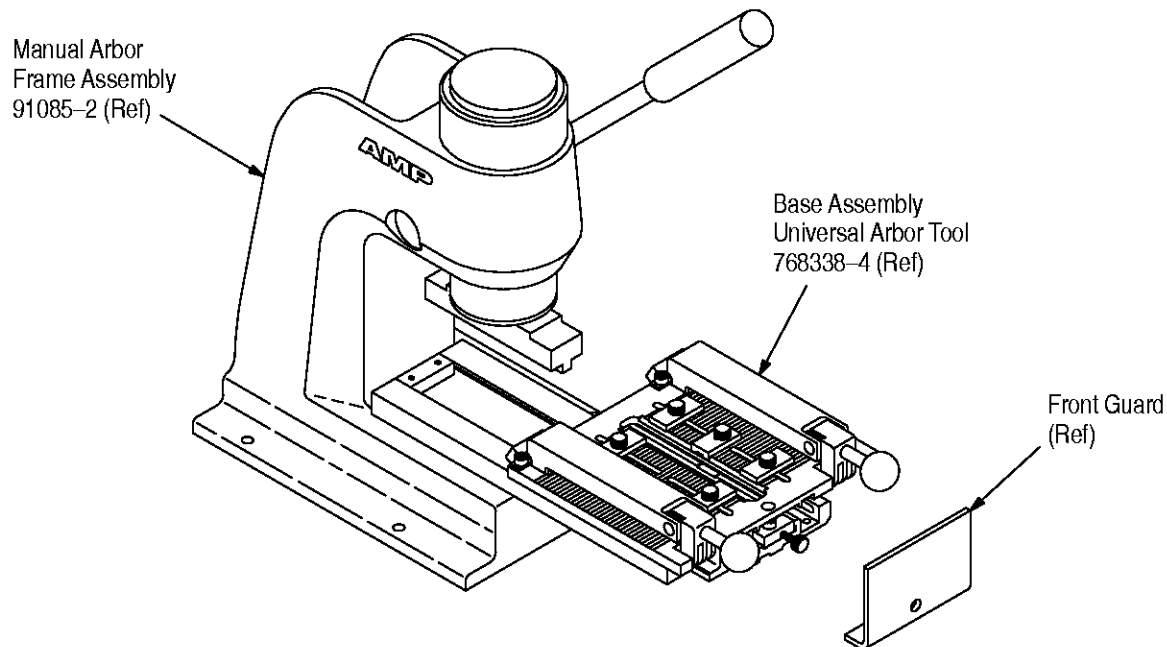

Figure 1
This instruction sheet covers the installation and setup procedures for AMP* Connector-Specific Kit 904379-1. The connector-specific kit is used with Base Assembly Universal Arbor Tool 768338-4 and Manual Arbor Frame Assembly 91085-2 (see Figure 1), or Pneumatic Auto-Cycle Unit 91112-3 to terminate Ultra Novo 40-position receptacle connectors onto 0.64 mm [.025 in.] centerline flat ribbon cable.
2. DESCRIPTION (Figure 1)